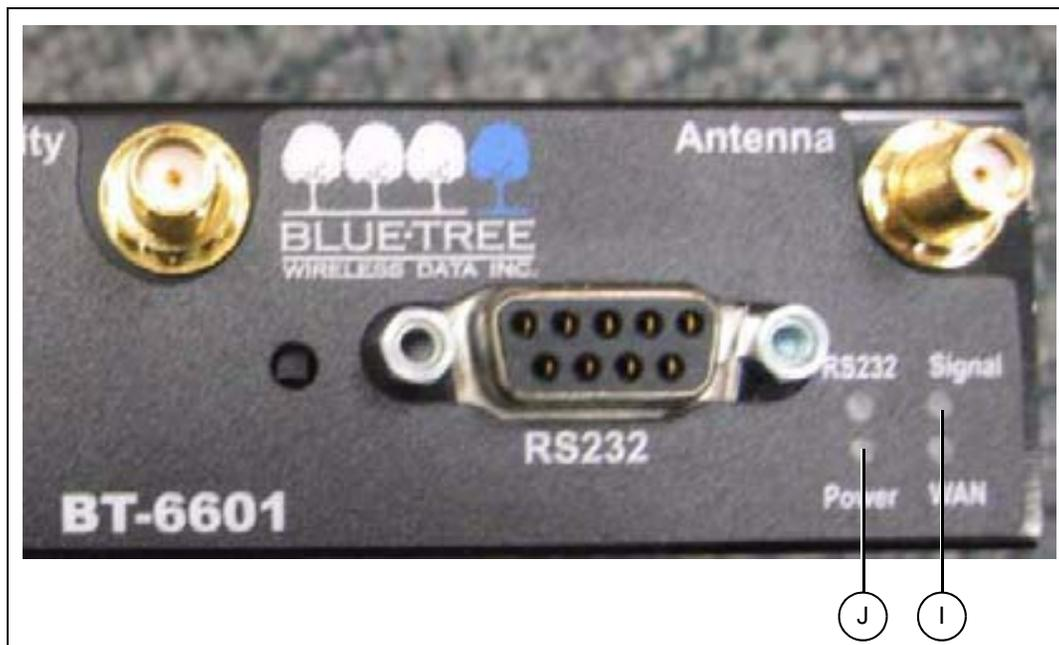

Figure 5H Indicator Lights on Cell MODEM
9. Turn power back onto dryer and observe status lights on cellular MODEM. The power light should be ON and in a few seconds the signal light should flash indicating connection to the cellular network. (See Figure 5H.) If the signal light does not light, try moving the antenna to another location, preferably where there is no metal between it and an adjacent cell tower.